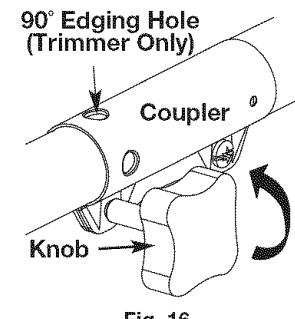
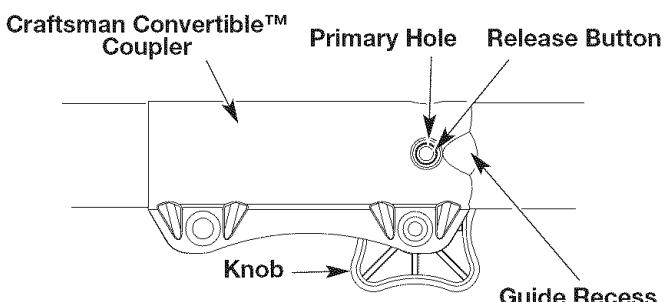

Fig. 16
Fig. 17
2. Turn the knob counterclockwise to loosen coupler (Fig. 16).
3. Push in the release button (Fig. 17) and twist the shaft 90° until the release button snaps into the 90° hole (Fig. 16).
**CAUTION:** Before operating this unit, be sure that the release button is fully snapped into the primary hole (Fig. 16), and that the knob (Fig. 17) is securely tightened.
2. Turn the knob counterclockwise to loosen the coupler (Fig. 16).
3. While firmly holding the attachment, push it straight into the coupler until the release button (Fig. 17) snaps into the primary hole (Fig. 16). The primary hole is on the opposite side of the coupler from the knob (Fig. 17). Align the release button with the Guide Recess (Fig. 17) to help installation.
3. Press and hold the release button (Fig. 17).